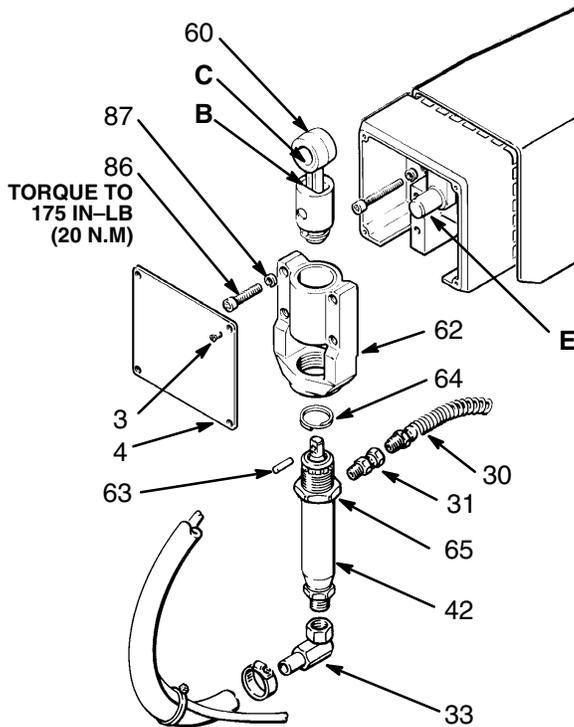

Fig 34-1
Refer to Fig 34-1 unless otherwise indicated.
- Reinstall the front cover and screw (4,3). Reconnect the swivel union (33) and pump outlet hose (30). See Fig 34-1.